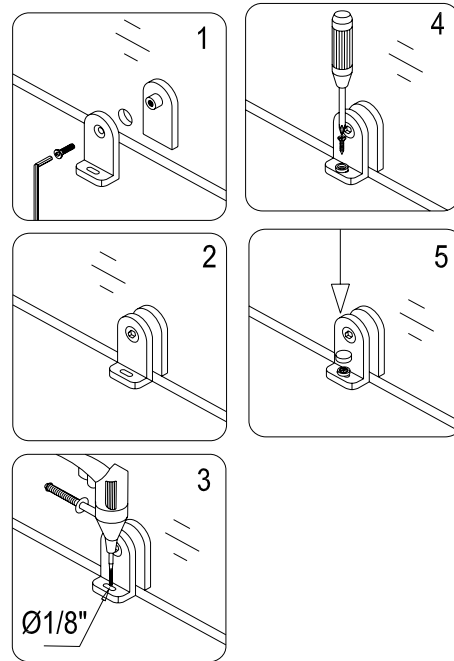
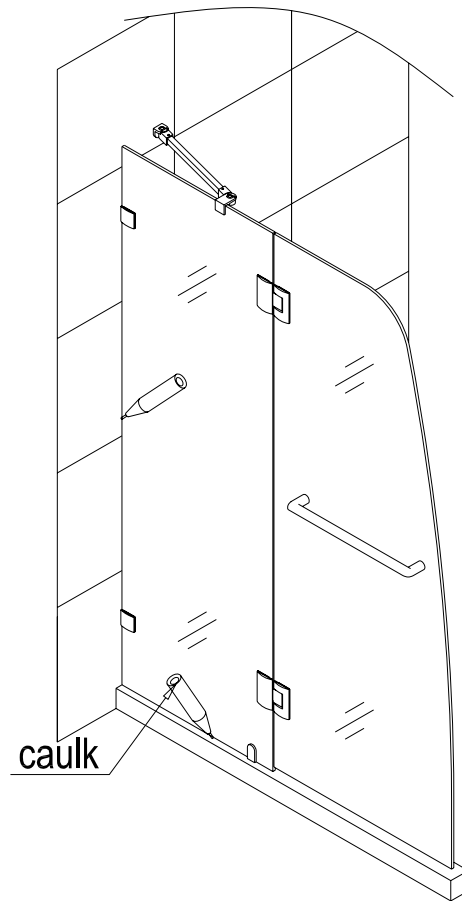

fig. 8
fig. 9
9. Attach the **Bottom bracket (13)** on the stationary glass and mark a hole in the threshold or tray through the slotted hole of the **Bracket**. Remove the **Bracket**, insert **Anchor (07)**. Then reinstall the **Bracket** and screw it onto the threshold or tray with the **Round head screw ST4.2x25 (11)** and cover it with the **Decorative cover (12)**. See fig. 8 for details.
**NOTE: The Bottom bracket (13) is only applicable for 72" shower door installation (to the threshold or the shower tray). If your unit is being installed to the bathtub, then you do not need this bracket.**
10. Seal with caulk (recommended 100% clear silicone) inside and outside along the bottom of the stationary glass and between the wall and the wall bracket. See fig. 9 for details.